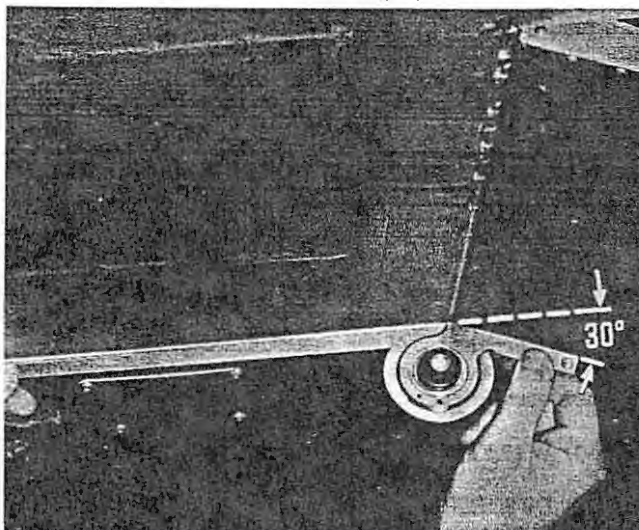

Figure 2-51. Rudder Tab Travel Check
- d. Using a protractor (figure 2-51) set the tab at 30 degrees \pm 2 degrees.